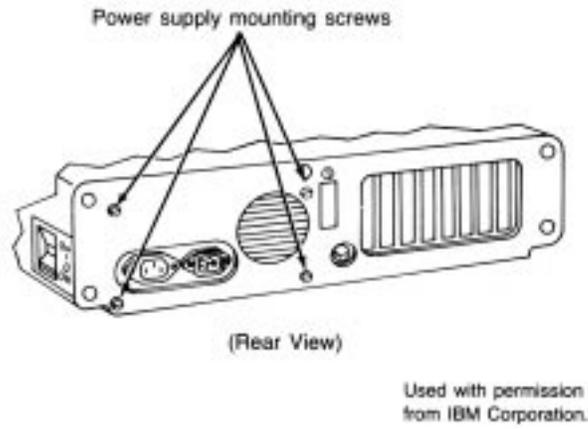

Fig. 3.8
1. Remove the four power-supply retaining screws from the rear of the system-unit chassis (see fig. 3.8).